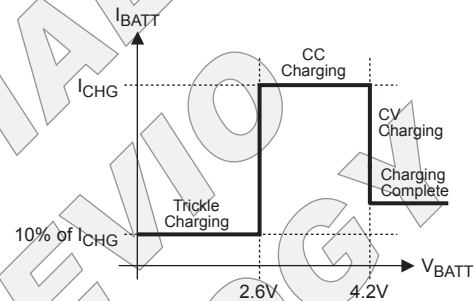

Figure 2—MP2605 Typical Charging Profile
Figure 2 shows the typical charging profile for the MP2605. For a fully depleted battery with a terminal voltage lower than 2.6V, the MP2605 will start with the trickle charge (preconditioning) at 10% of the full charge current based on the value of  $R_{\text{CHG}}$ . If the charger stays in trickle mode longer than 16384 cycles,  $\overline{\text{CHG}}$  becomes high impedance, indicating a battery fault. After the battery voltage reaches 2.6V, the charger begins charging using the programmed charge current ( $I_{\text{CHG}}$ ). This is referred to as Constant Current (CC) mode. Once the battery voltage reaches 4.2V, the charger will operate in the constant voltage (CV) mode until the battery is fully charged. The charge current drops during CV mode, and the battery full indication is set when the charge current is reduced to 20% of the programmed constant current value ( $I_{\text{CHG}}$ ). The charge process is then terminated. Recharge will start after the battery voltage is reduced to 4.0V. After 131072 cycles of continuous charging, if the battery still has not reached 20% of the  $I_{\text{CHG}}$  condition, the on-chip timer will terminate the charger to prevent charging the dead battery excessively and the fault condition will be flagged by flashing the  $\overline{\text{CHG}}$  LED.